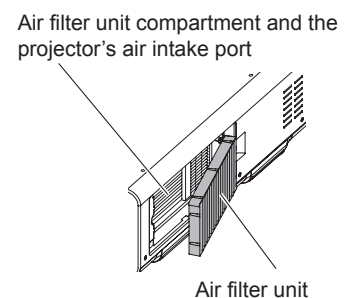

Fig. 3
- After pulling out the air filter unit, remove large foreign objects and dust from the air filter unit compartment and the air intake port of the projector body if there are any. (Fig. 3)